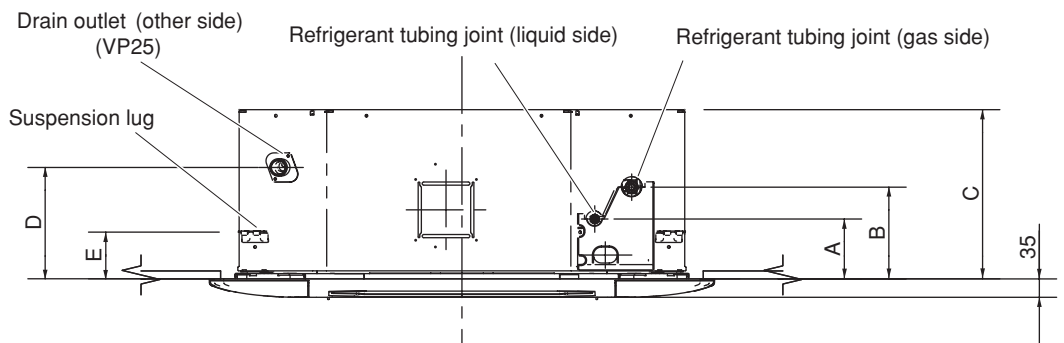

Fig. 3-34
(3) Determine the pitch of the suspension bolts using the supplied full-scale installation diagram. The diagram and table (Fig. 3-34 and Table 3-4) show the relationship between the positions of the suspension fitting, unit, and panel.